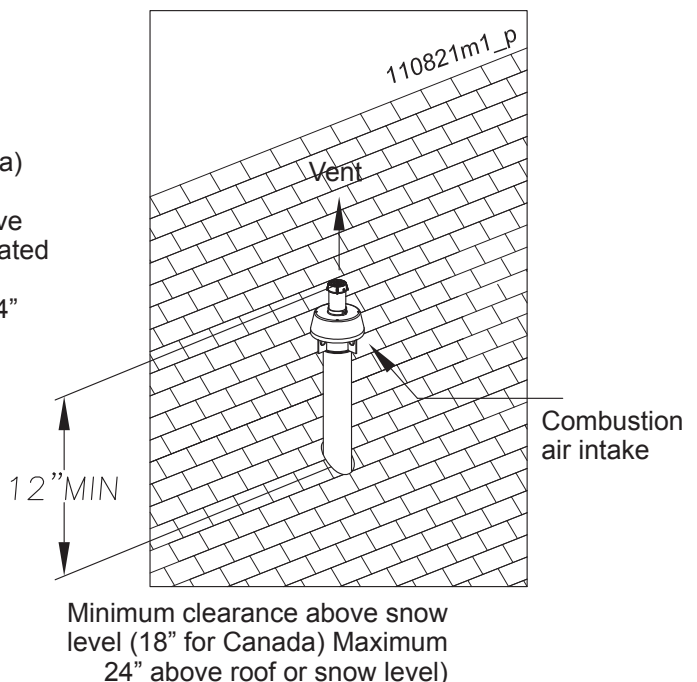

Figure 12-26 Concentric vertical terminations
1. Determine the best location for the termination kit (see Figure 12-26).
4. Cut one (1) hole into the structure to install the termination kit.